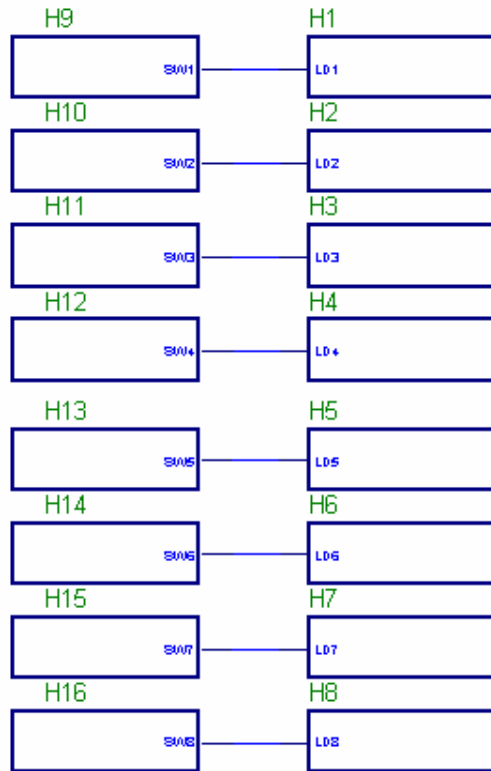

Figure 4.4
- On a new schematic, connect the eight switch macros to the eight LED macros as shown in Figure 4.4.